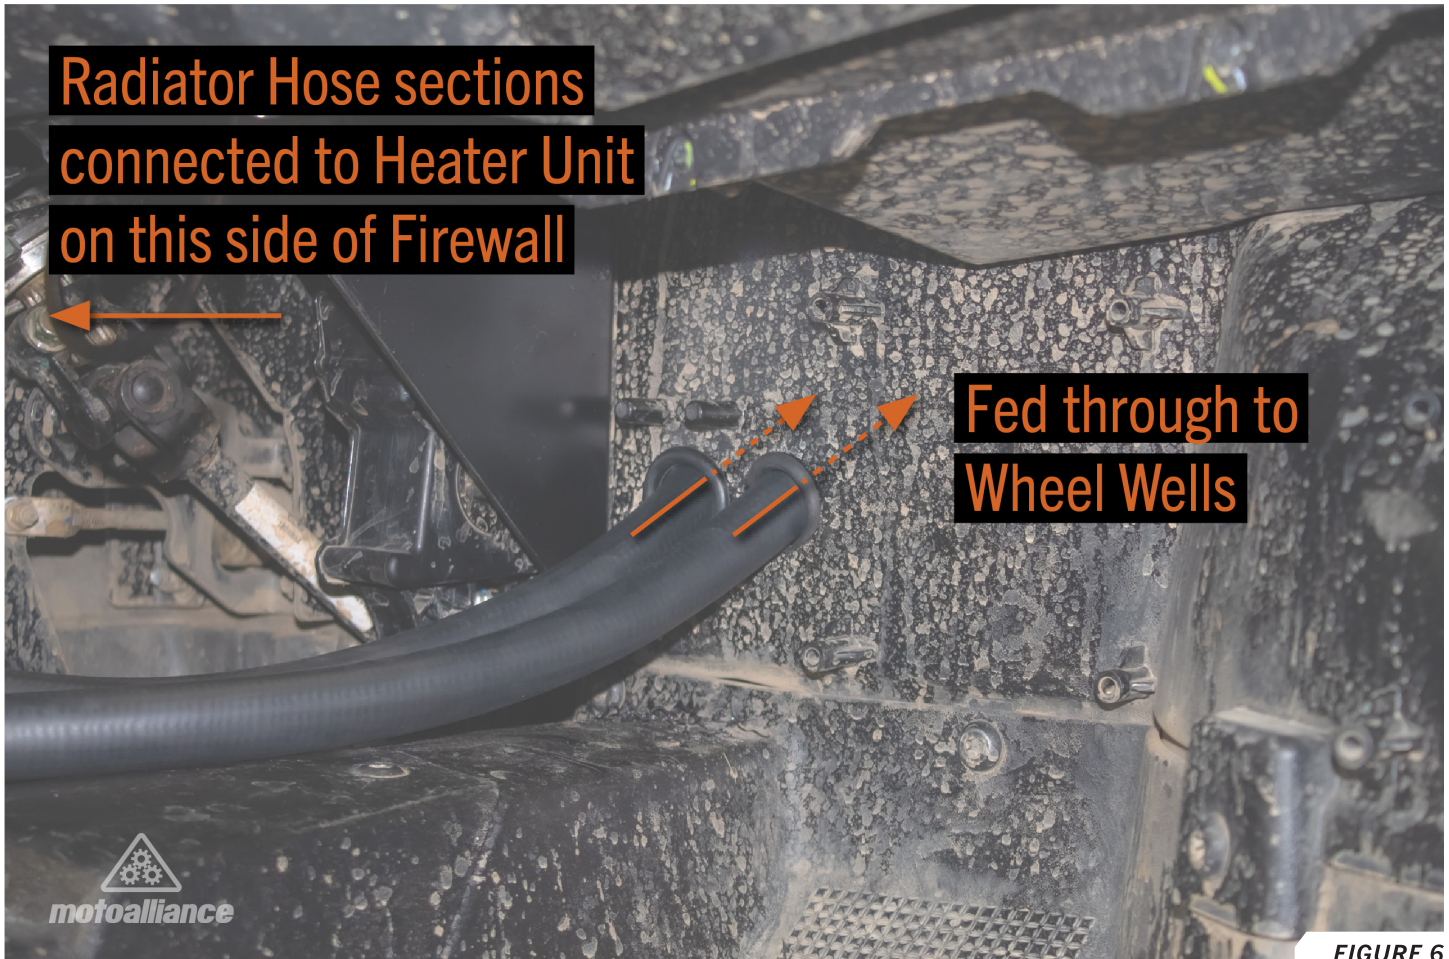

FIGURE 6
- Connect the 12' section and the 8' section to the inlets of the heater unit and then feed through the two holes in the firewall. *FIGURE 6*